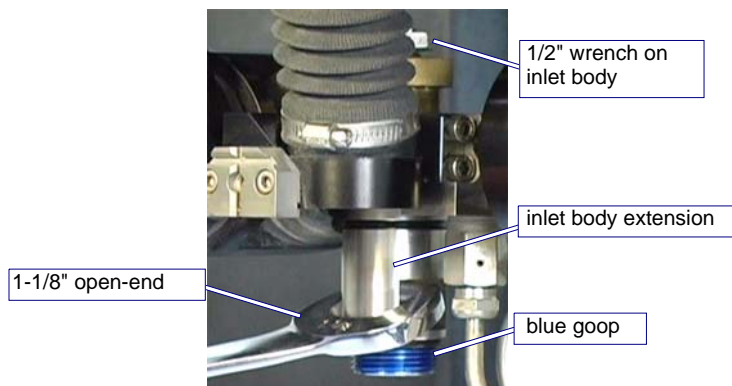

Figure 6-83: Tightening the Inlet Body Extension to the Inlet Body
6. Slowly screw the **Inlet body extension** onto the **inlet body** and hand-tighten (Figure 6-83).
8. Using a **1-1/8" open-end wrench** placed on the **inlet body extension**, tighten the right-hand threaded **Inlet body extension** to the **inlet body** using both wrenches (Figure 6-83).